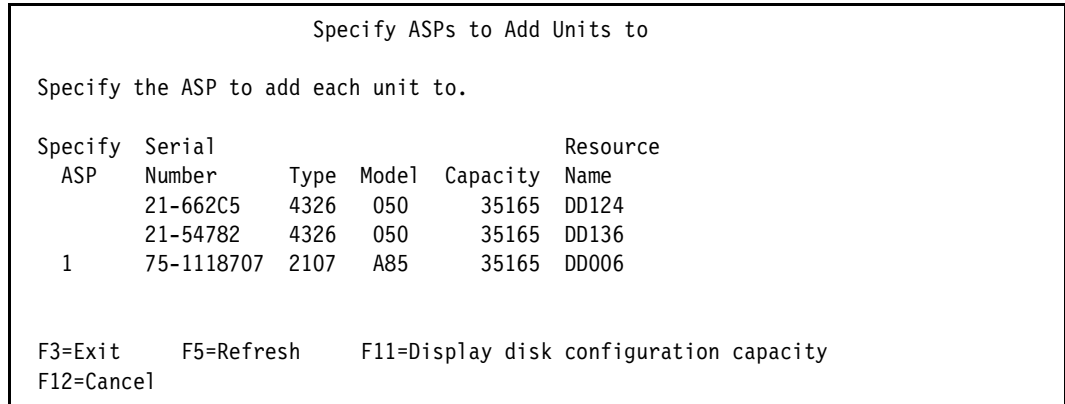

Figure B-4 Specify ASPs to Add Units to
- Figure B-4 on page 377 shows the Specify ASPs to Add Units to panel. Specify the ASP number next to the desired units. Here we have specified ASP1, the System ASP. Press Enter.